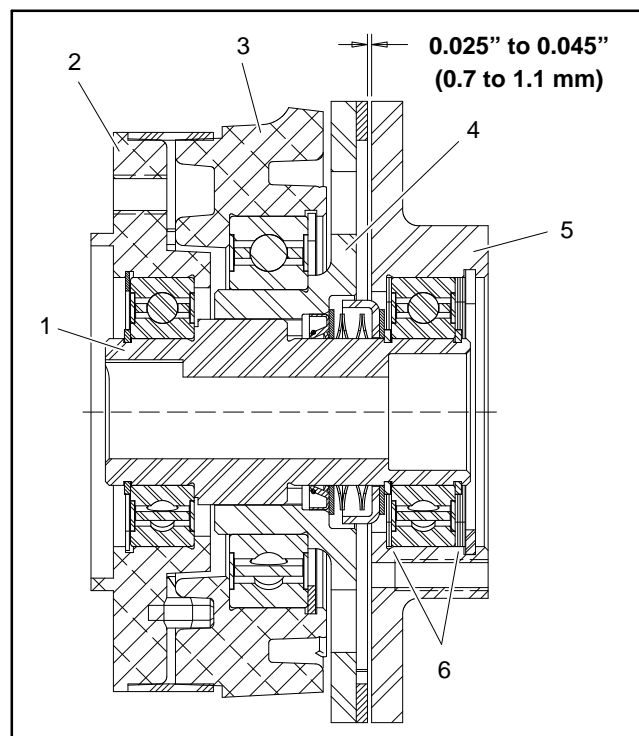

Figure 46
1. Press new ball bearing into fixed housing (item 17) and secure with retaining ring. Then, press fixed housing (item 17) assembly onto hub and secure with retaining ring (item 1).
2. Install new oil seal (item 9) into thrust friction assembly.
3. Press new ball bearing into rotating housing (item 13) and secure with retaining ring. Then press rotating housing assembly onto thrust friction assembly (item 10).
4. Apply coating of high temperature Mobil XHP-222 grease (or equivalent) to spline area of hub (item 14).
5. Install airgap cover (item 15) and then thrust friction assembly (item 10) (with rotating housing (item 13) attached) onto hub. Take care to not damage oil seal during assembly.
6. Slide shim (item 6), wave spring (item 8), spring cup (item 7) and second shim (item 6) onto hub. Secure assembly with retaining ring (item 1).
7. Install shims (item 3) and new ball bearing into mounting plate (item 5). Position shims in same location as noted during disassembly. Secure assembly with retaining ring.
8. Press mounting plate (item 5) assembly onto hub and secure with retaining ring (item 1).
9. After clutch assembly, measure clearance between thrust friction assembly and mounting plate (Fig. 46). Clearance should be from 0.025" to 0.045" (0.7 to 1.1 mm). If necessary, remove mounting plate (item 5 in Fig. 46) assembly and change shim locations (item 6 in Fig. 46) to adjust clearance. Moving shims from outside the bearing to inside the bearing decreases clearance. Moving shims from inside the bearing to outside the bearing increases clearance.